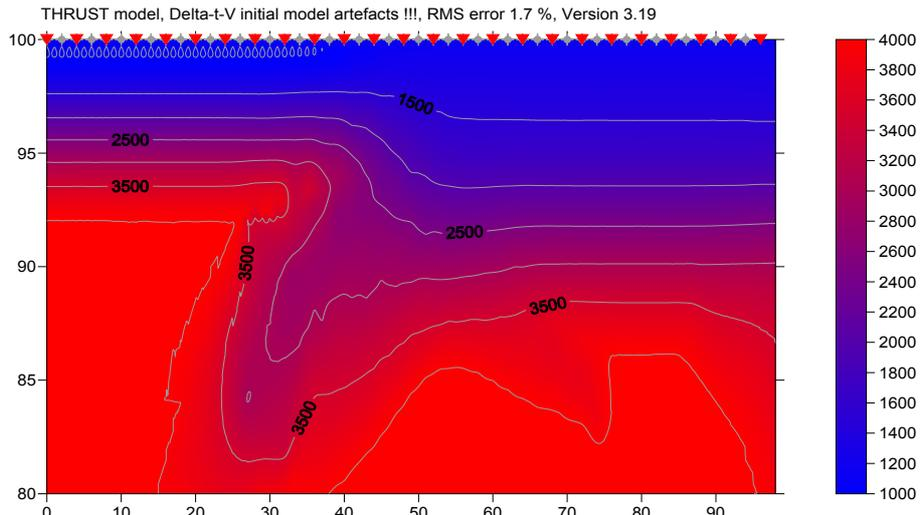

Fig.4 : pseudo-2D DeltatV initial model, default parameters
- select DeltatV|Automatic Delta-t-V and WET inversion, confirm prompts. Obtain Fig. 4.
As shown in Fig. 4, our pseudo-2D DeltatV inversion can image velocity inversions, with close enough shot and receiver spacing and favorable subsurface geology.